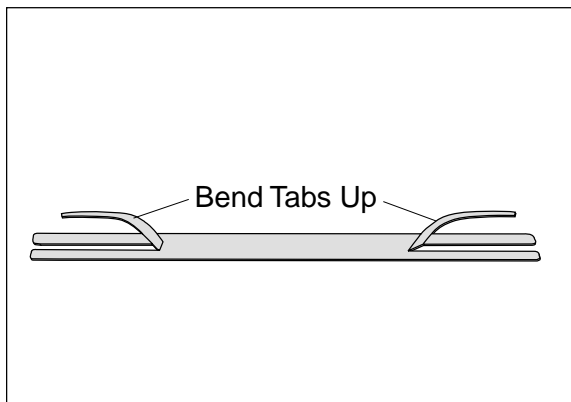

Figure 8
- Bend tabs to provide a $\frac{1}{2}$ " dead air space between exhaust pipe and heat shield (Figure 8).